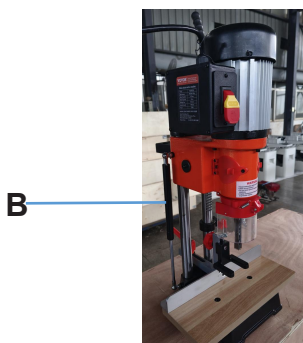

Fig. 4
3. Fig. 4, illustrates the gas spring (B) assembled to the machine. The gas spring (B) keeps the head in the up position.